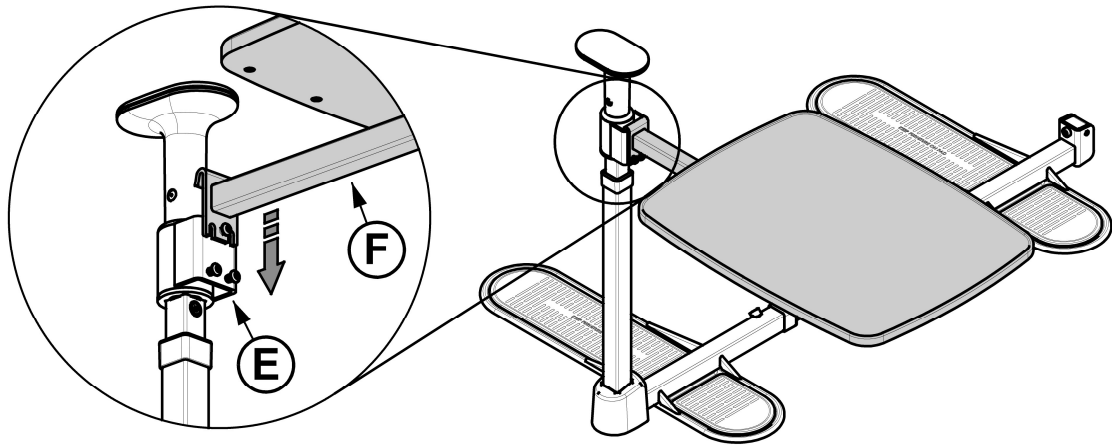

FIGURE 9
9. Hook Tray Assembly **F** on to bracket of Pivot **E** as shown in *FIGURE 9*.